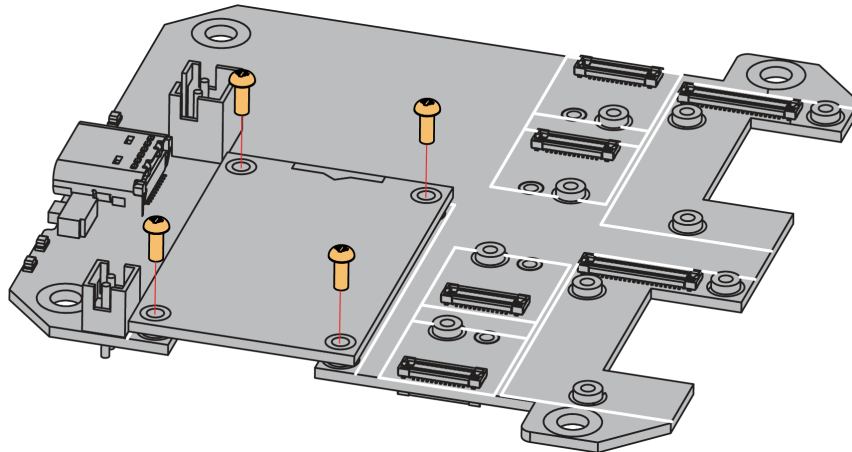

Figure 17: Removing screws from the WisBlock module
1. The procedure to disassemble any type of WisBlock modules is the same. As shown in **Figure 17**, first, remove the screws.